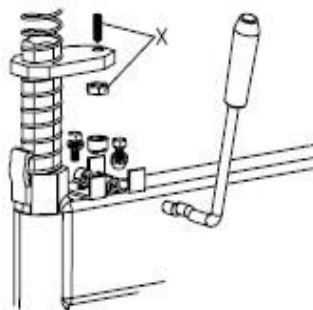

Fig 17
Note: If Hexagonal Vertical Arm not be locked or not meet the requirement that 2-3mm from the bottom of Mounting/demounting head to rim, please adjust Hexagonal Locking Plate, refer to Fig 17 and adjust the (X).